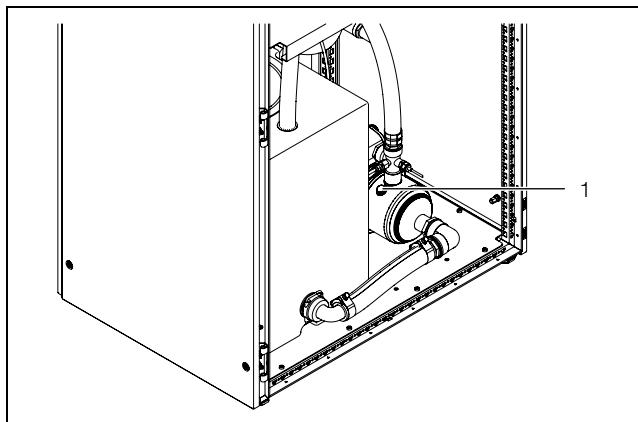

Fig. 13: Bleeding the cooling medium pump
- Bleed the cooling medium pump (with the system at a standstill) by loosening the vent screw (fig. 13, item 1). As soon as cooling medium escapes from the vent screw, bleeding of the pump is complete.